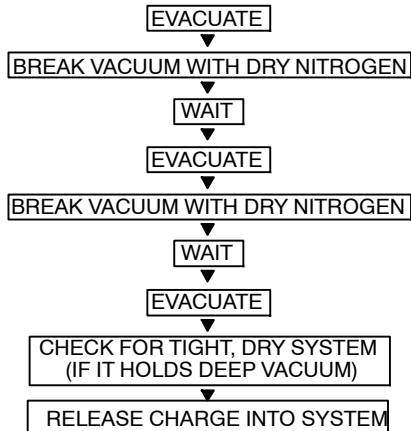

Fig. 21 – Triple Evacuation Method
Refer to Fig. 21 and proceed as follows:
5. Repeat this procedure as indicated in Fig. 21. System will then be free of any contaminants and water vapor.